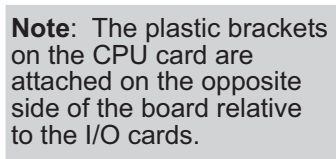

Figure 5. Installing I/O Cards on the Backplane
2. Position the new I/O card above the backplane over any unused slot position (**SLOT 0** to **SLOT 6**) as shown in Figure 5. Note the slot number and the type of I/O card since Dynamic C addresses the I/O cards by slot number.
3. Carefully insert the I/O card header into the slot on the backplane and line up the tabs on the I/O cards with the slots on the backplane as shown in Figure 5.